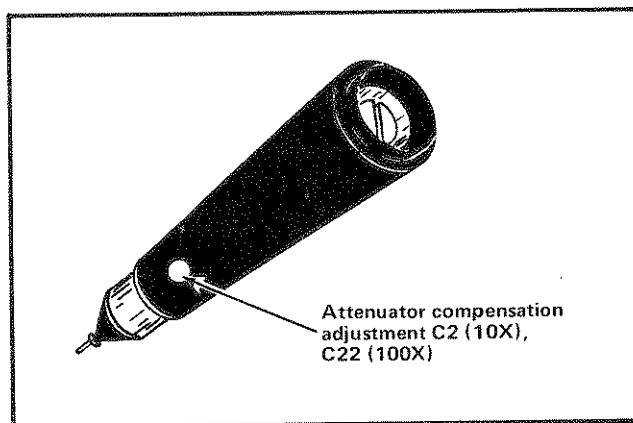

Fig. 5-9. Location of attenuator compensation adjustment.
- ADJUST—C2 (10X) or C22 (100X) attenuator compensation, see Fig. 5-9 for a square leading corner on the test oscilloscope waveform.